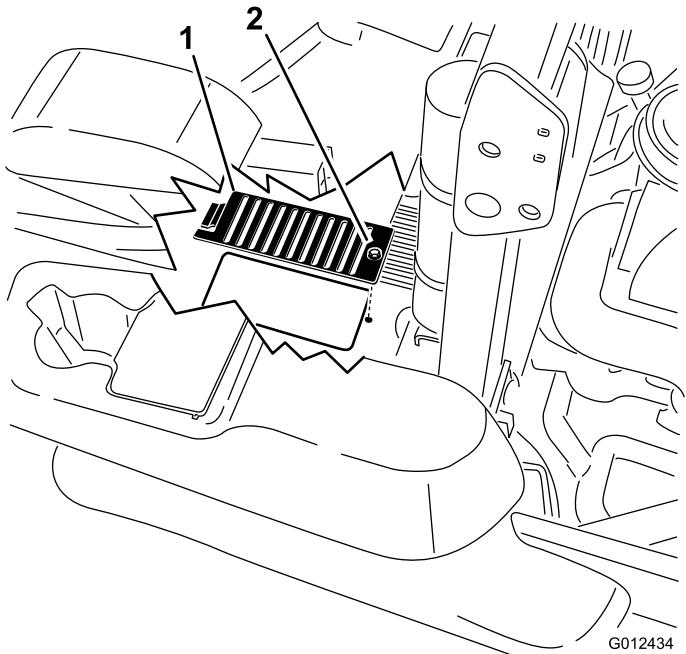

Figure 70
- 6. Over each dipstick, remove the cover and the bolt attached to the cover. Clean around each dipstick and hydraulic unit (Figure 70).